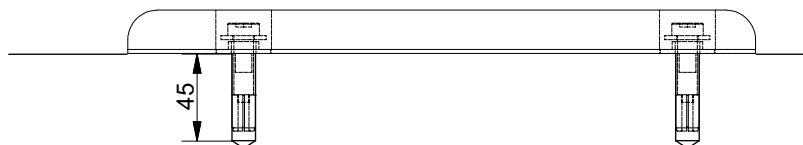
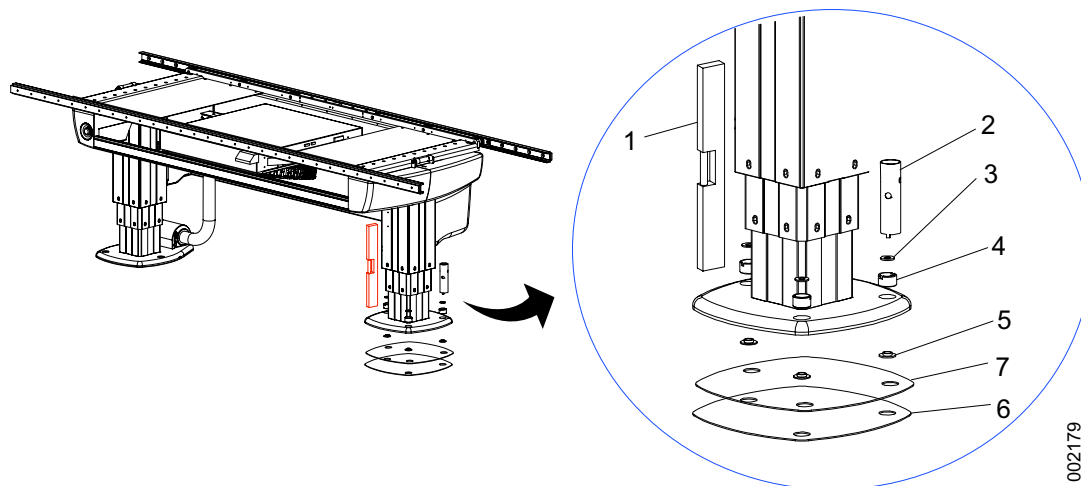

Fig. 4-110 Hole depth for expanders
Fig. 4-111 Install insulation plate
3. Place the Table over the drilled holes and install the insulation plate and washers according to **Fig. 4-110** and **Fig. 4-111**.
5. Place a spirit level (1) on two adjacent sides of each column. The column shall be 90° with a tolerance of  $\pm 0.5^\circ$ .
6. To adjust the column use the adjusting bolts (4) and the installation tool (2), see **Fig. 4-111**. The adjusting bolts are only for alignment.